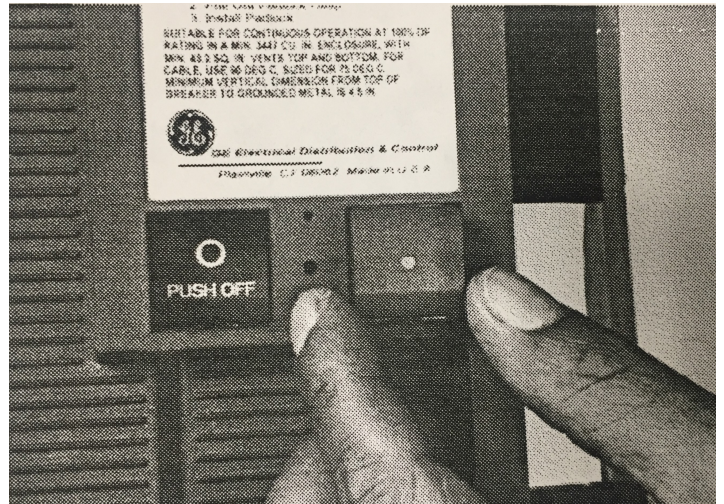

Figure 5 Installing the replacement On button into the breaker cover
6. Slide the replacement On button into the slot on the front of the breaker cover, as shown in Figure 5, then press it in until the locking tabs click into place.